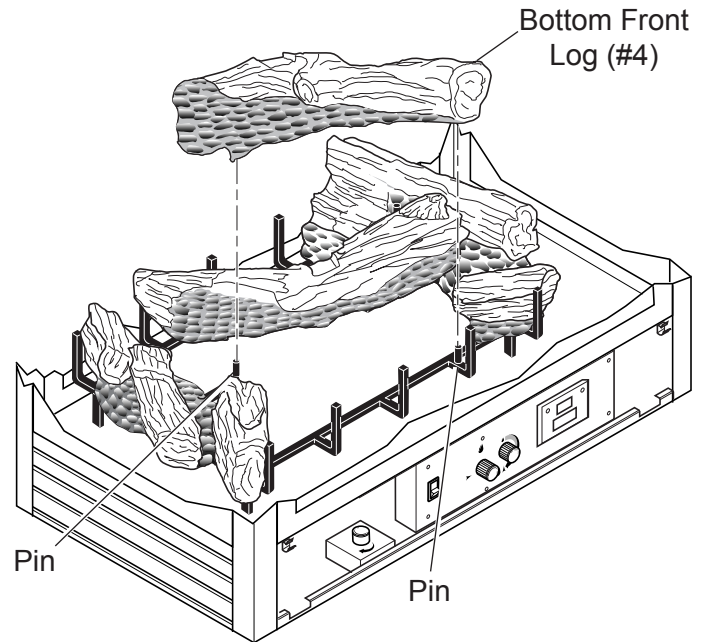

Figure 47 - Installing Bottom Front Log (#4)
6. Line up pin holes on bottom front log (#4) with pins on grate. See Figure 47.